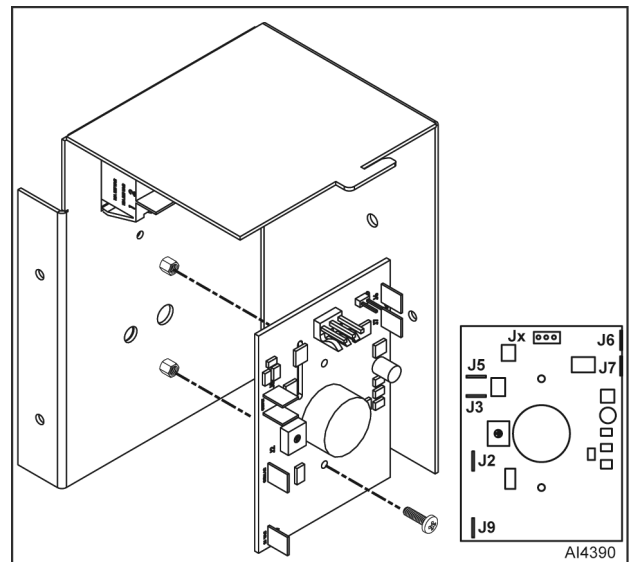

Fig. 9
4. Disconnect wires from CEF controller board (Fig. 9).